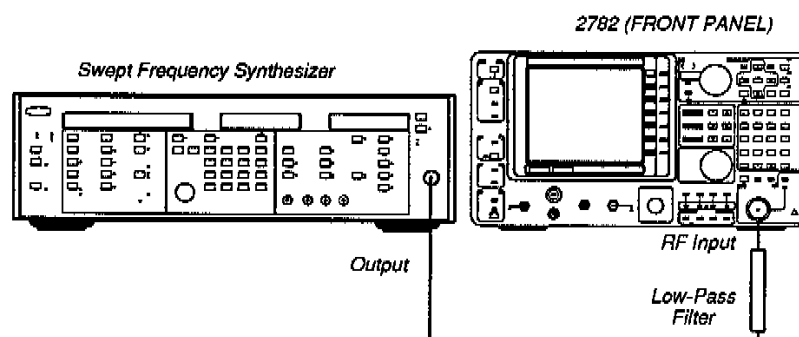

Figure 2-7. Test Equipment Setup for the Second Harmonic Distortion Check.
- b. Connect a 50 Ω cable from one of the swept-frequency synthesizer through the K&L 4L51-15-B/B low-pass filter to the 2782 RF INPUT connector (as shown in Figure 2-7).